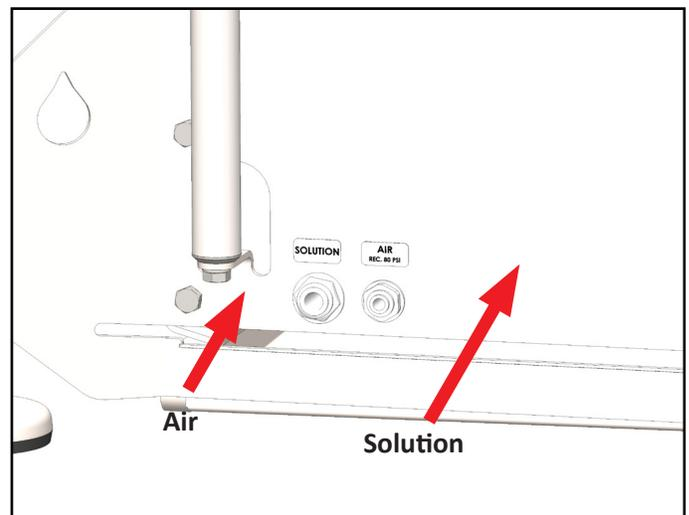

Fig. 6.3: Solution and air line quick fit connections
5. Using 1/4" OD tubing or similar, connect compressed air supply (80 PSI recommended) via the 1/4" quick connect fitting on the side of the unit [Figure 6.3].